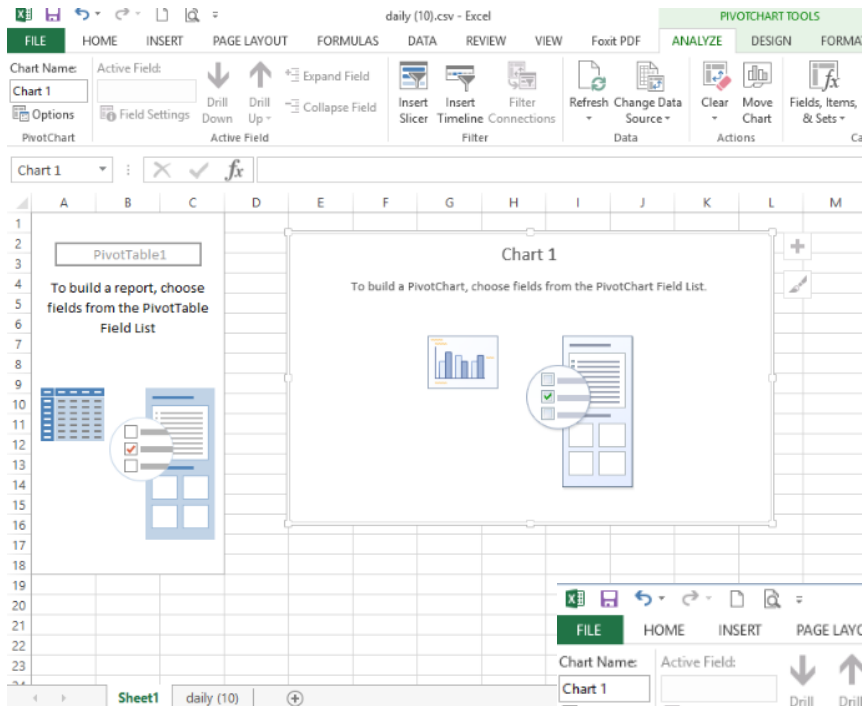

Figure 27. Creating a Pivot Chart 2.
- q) A new tab will be created with the Pivot Chart, as it is showed the figure 27.